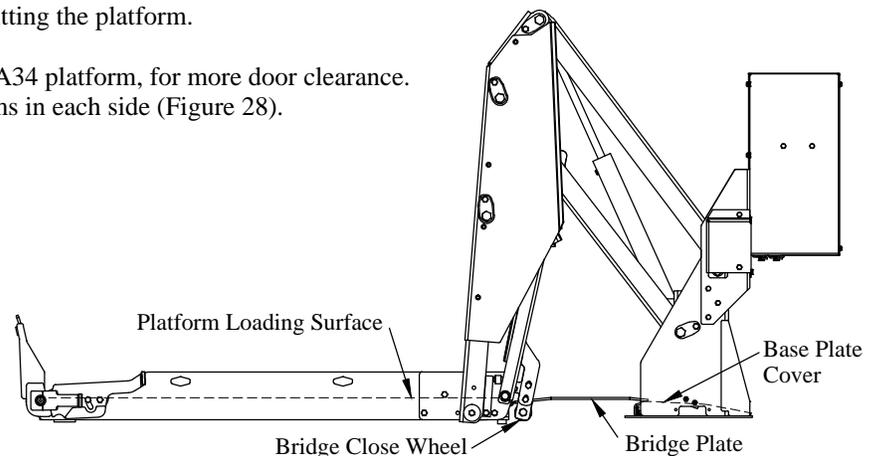

Figure 27: Platform and bridge plate.
4. **Raise** the platform as high as it will go with just the pendant toggle (Figure 27).
6. **Adjust** each bridge close wheel so that it is tight against the bottom of the bridge plate (Figure 27).